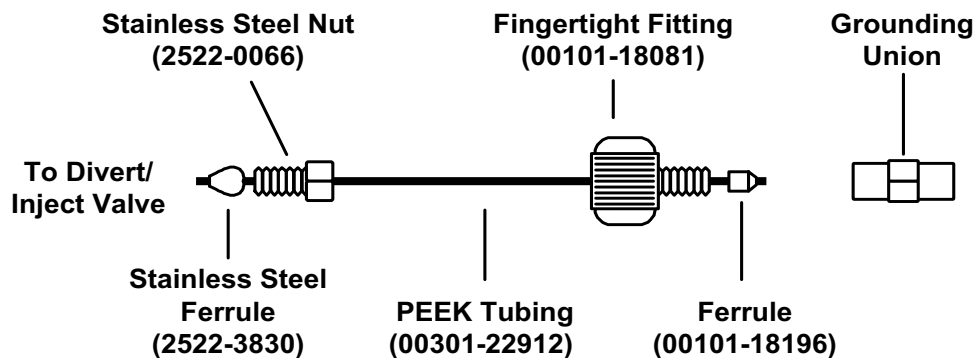

Figure 4-4. Sample transfer line, installed between the divert/inject valve and the grounding union
- a. Gather the necessary fittings for installing a sample transfer line. See Figure 4-4.